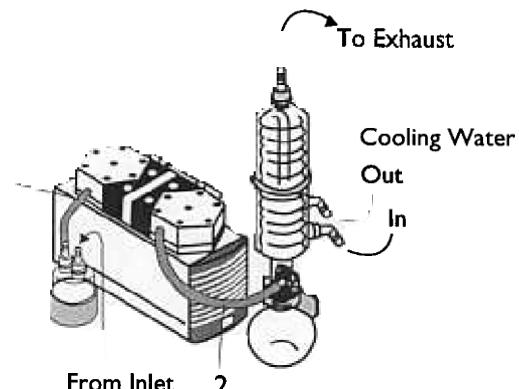

Figure 8:Tubing Connection SH (twin head pumps)
- Tubing see figure 8. Choose tube material which is resistant to the media to be used.
- ★ Observe the correct usage of the gas- and cooling water-connections on the condenser (see figure 8). Inlet and outlet connections for the vapour side are not interchangeable.
- ★ Ensure that the coolant inflow and outflow are connected to the correct nozzles as indicated in figure 8.